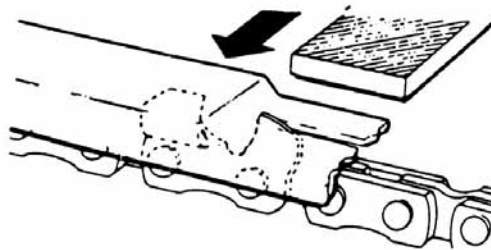

Fig. 4-3
- 3) Place depth gauge tool on cutter. If depth gauge projects, file it level with the top of the tool. Always file from the inside of the chain toward an outside cutter. (Fig. 4-3)